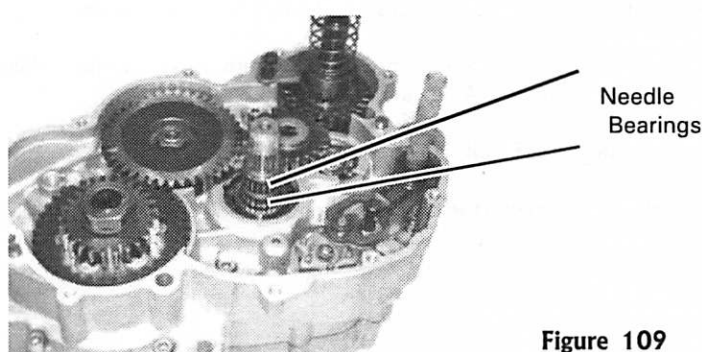

Figure 109
1. Install the 2 needle bearings (Figure 109) into the clutch shaft grooves. Lubricate the needle bearings with oil.